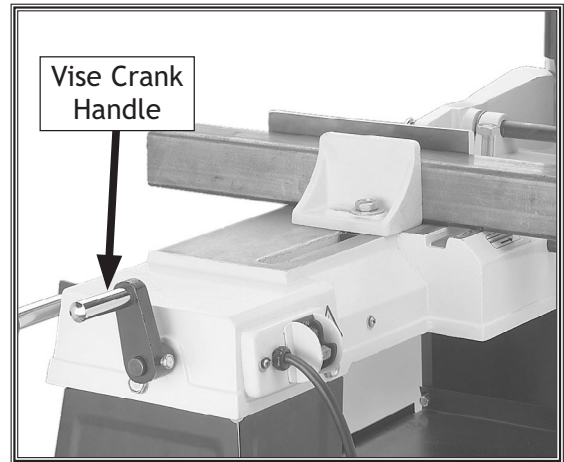

Figure 30. Vise crank handle.
4. Turn the vise crank handle (Figure 30) clockwise to firmly secure the workpiece in the vise jaws. The workpiece is now ready to cut.